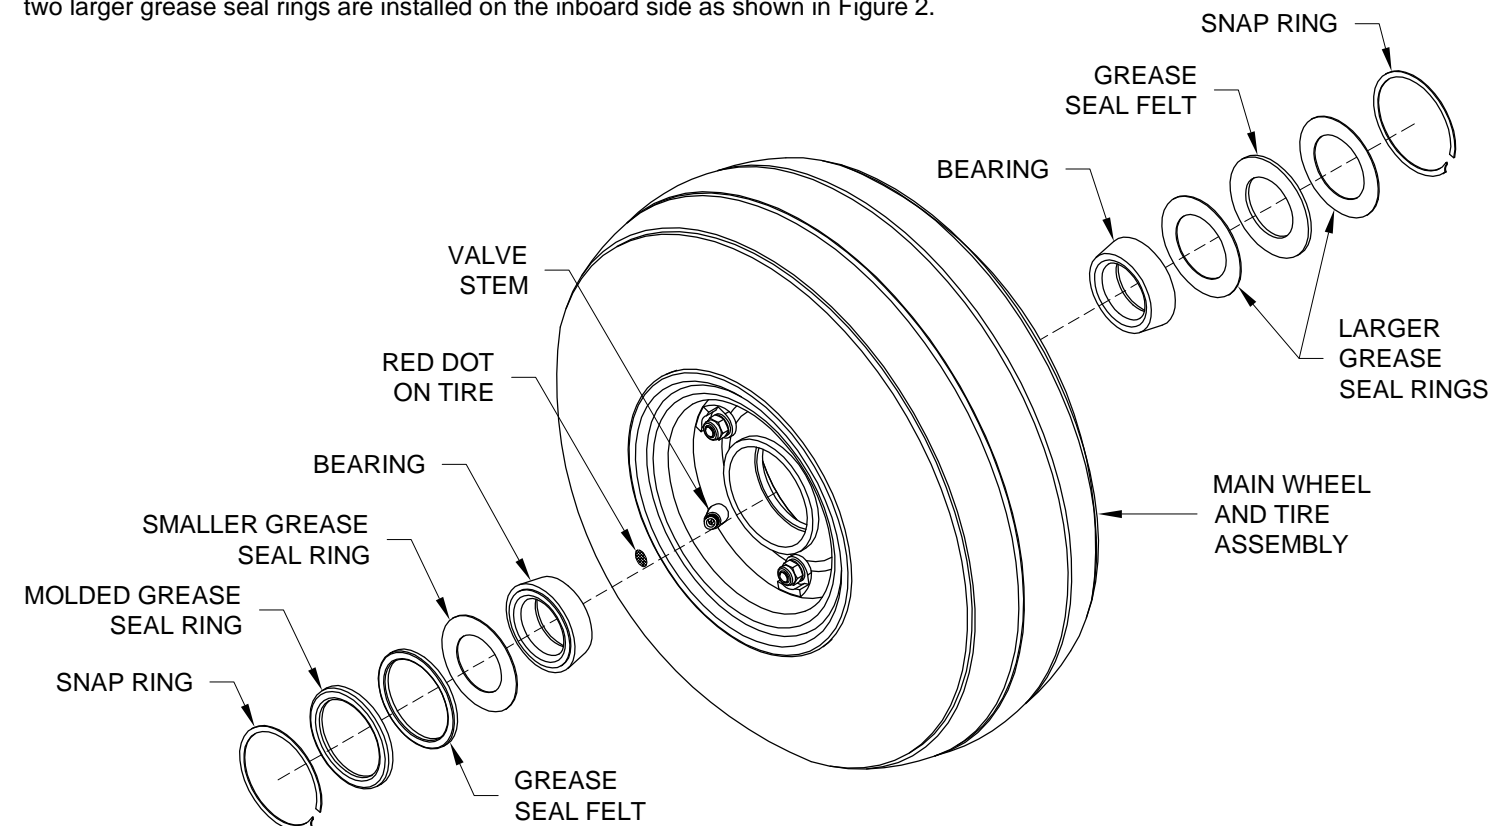

FIGURE 2: INSTALLING BEARINGS IN THE MAIN WHEEL AND TIRE ASSEMBLY
Step 1: Pull the bearings from the Main Wheel Assembly by removing the snap-rings that are retaining them. Pay close attention to how the bearings, grease seal rings, and grease seal felts are installed so that they can be reinstalled in the same way. See Figure 2.
Step 3: Dust the U 15X6.0-6IT Tube (not shown in Figure 1) and the inside of the U 15X6.0-6 Tire with talcum powder, then mount the tube and tire on the Inner and Outer Wheel halves. The red dot on the tire is installed next to the valve stem of the tube (see Figure 2). Bolt the wheel halves and the brake disk together. Carefully observe the manufacturer's bolt torque specifications shown on the document in the wheel/ brake package.
Step 5: Be sure the bearings are fully greased with Aeroshell #5 or equivalent. Reinstall the bearings, grease seal rings, and grease seal felts in the same order that they were removed. Make absolutely sure that the smaller grease seal ring is installed on the outboard side of the Main Wheel and Tire Assembly, and the two larger grease seal rings are installed on the inboard side as shown in Figure 2.